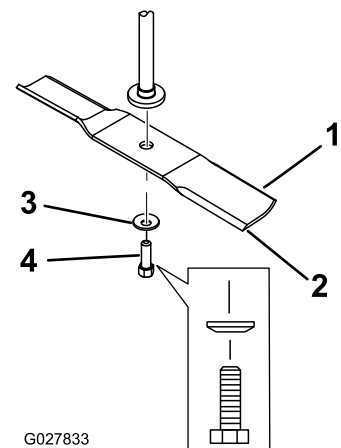

Figure 47
2. Remove the blade bolt, the curved washer, and the blade from the spindle shaft (Figure 47).
1. Install the blade onto the spindle shaft (Figure 47).
2. Install the the curved washer (cupped side toward the blade) and the blade bolt (Figure 47).